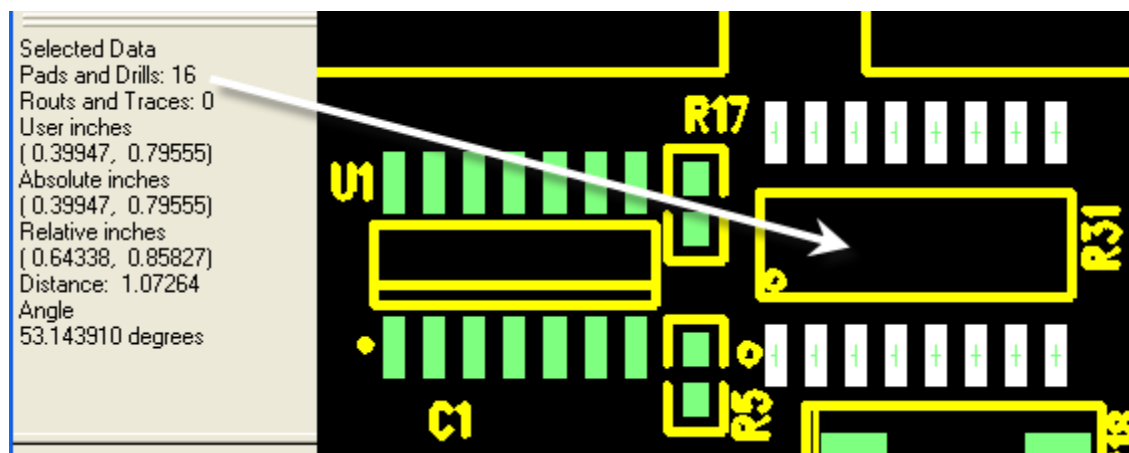

Figure 32
2. Run Parts > Teach Part (hot keys “ctrl + shft + p”) with the following parameters, then press OK – See Figure 32: